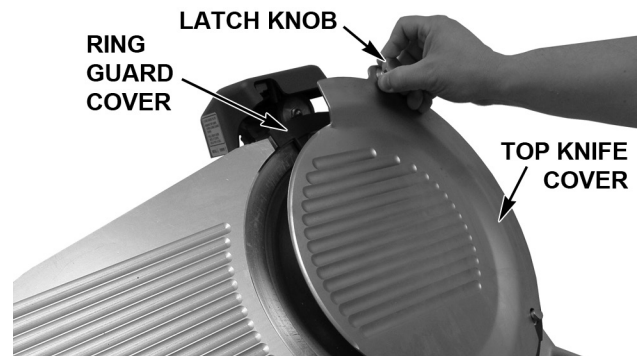

Fig. 10
- Remove the Top Knife Cover (Fig. 10) by pulling on the Latch Knob. The Top Knife Cover is held in place by a magnet under the Latch Knob.
- Remove the plastic Ring Guard Cover (Fig. 10) by lifting up.